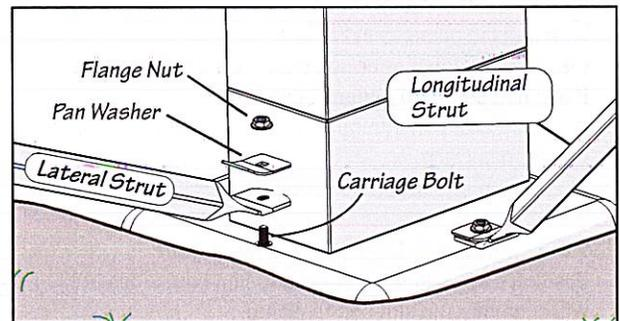

Fig. 4-3
- Slide a pan washer over the carriage bolt/longitudinal strut, install a flange nut over the carriage bolt as shown in figure 4-3.
- Slide a pan washer over the carriage bolt/lateral strut, install a flange nut over the carriage bolt as show right in Fig. 4-3.